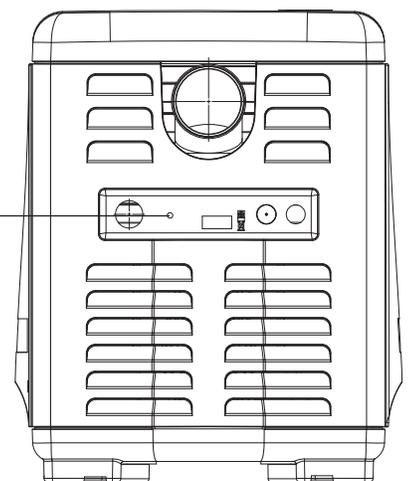

Figure 32.
2. Locate the small hole in the exhaust panel, for the RS-485 cable. Use an appropriate size drill bit for the flexible conduit or strain relief to be used in the exhaust panel to drill a hole for the RS-485 wires. **See Figure 32.**